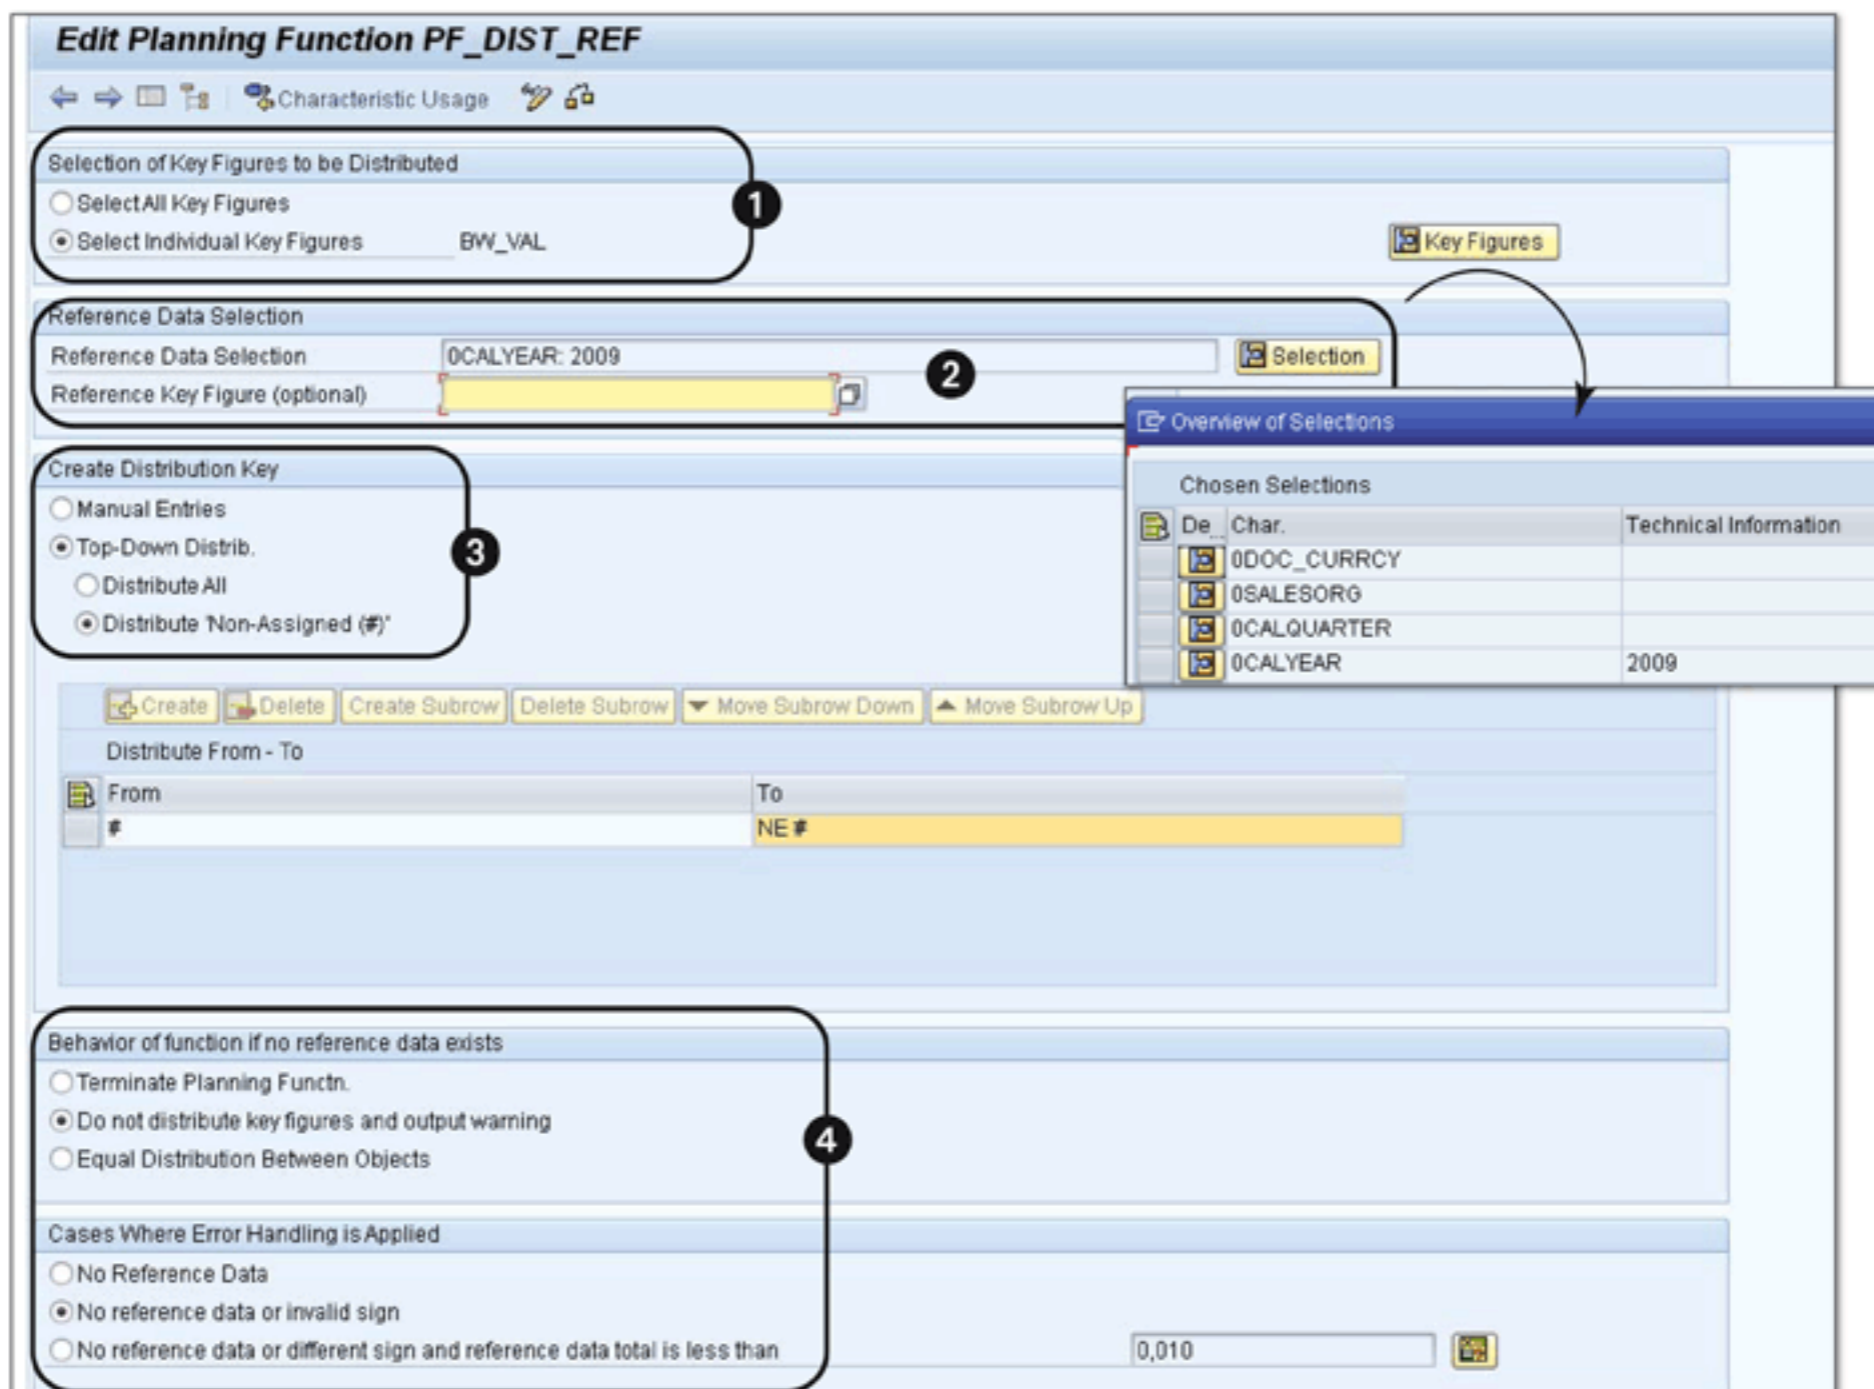

Figure 12.49 Distribution by Reference Data
The DISTRIBUTION BY REFERENCE DATA function is defined the same way as you define the DISTRIBUTION BY KEY planning function. Additionally, you have to select the characteristics that are used to define the reference data. The values included in the planning filter selection are distributed with respect to the mentioned reference data. The planning function parameter screen for distribution by reference data is explained in Figure 12.49.
Similar to the DISTRIBUTION WITH KEY function, you must select the key figure that needs to be distributed (❶). The next step is to define the reference data that should be used for distribution (❷). In the example shown in Figure 12.49, the net value key figure for the data in the selection is distributed per the data for calendar year 2009. Further, select the method of distribution (❸) from the available options. You can also define the error handling for this function if there is no relevant reference data (❹).